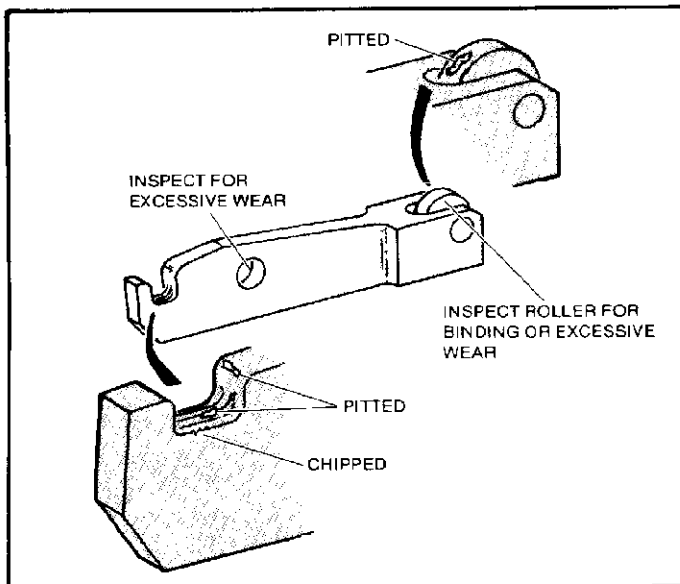
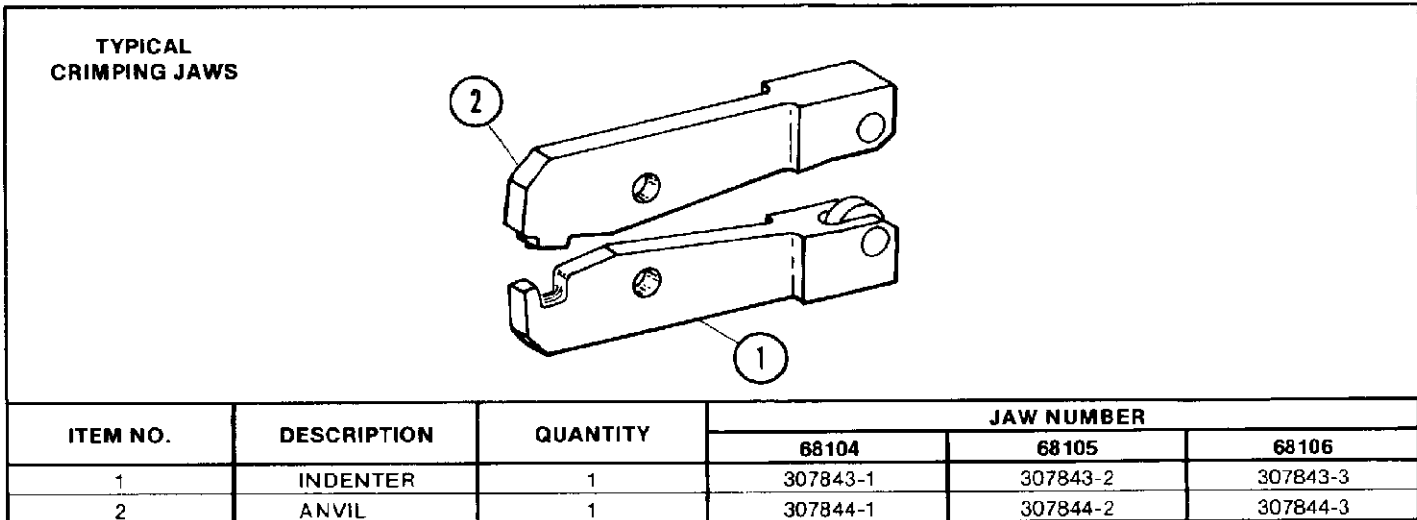

Figure 5
Figure 9
- (d) Examples of possible worn or damaged jaw or cam roller surfaces are shown in Figure 5. If jaws are defective, refer to Figure 9 for customer replacement part numbers.
Refer to Figure 9 for crimping jaw replacement part numbers. Replacement crimping jaws can be purchased from AMP Incorporated, Harrisburg, Pa., 17105 or a wholly owned subsidiary of AMP Incorporated.